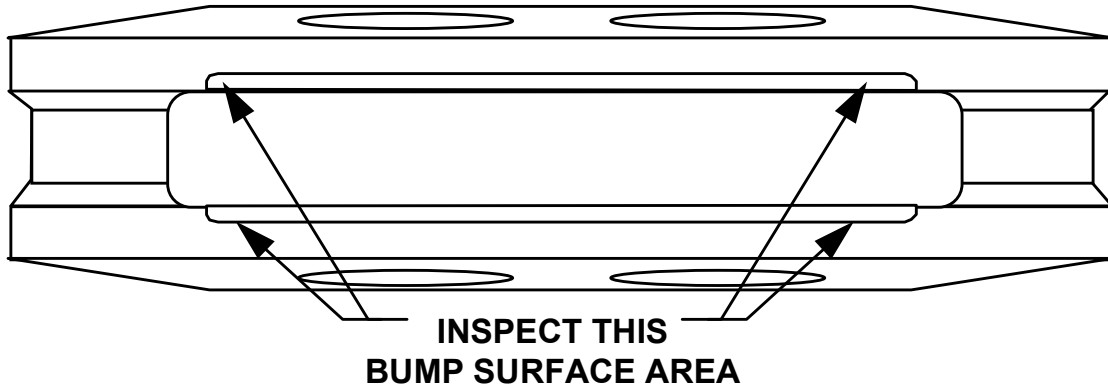

FIGURE 2. COUNTERWEIGHT BUMP SURFACE INSPECTION
1. Inspect the bump surface of the counterweight as shown in Figure 2. The bump surface contact marks must not exceed .005 inches in depth.